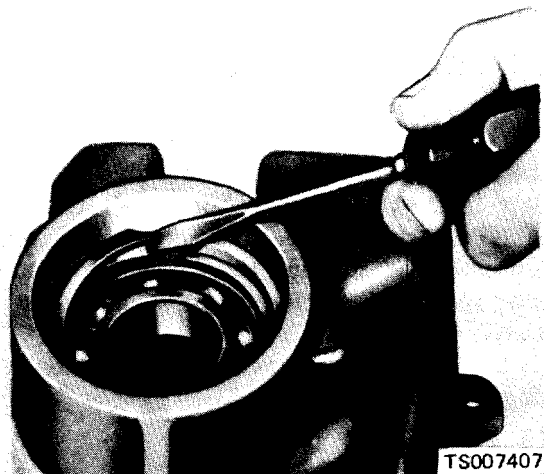

Figure 7-19. Extension Housing Bearing Removal.
(1) Remove the parking brake drum and companion flange attaching nut.
(2) With a sharp chisel, remove the seal from the extension housing. Do not allow metal chips to enter the output shaft bearing.
(3) To remove the output shaft bearing from the extension housing, remove the bearing retaining snap ring (fig. 7-19).